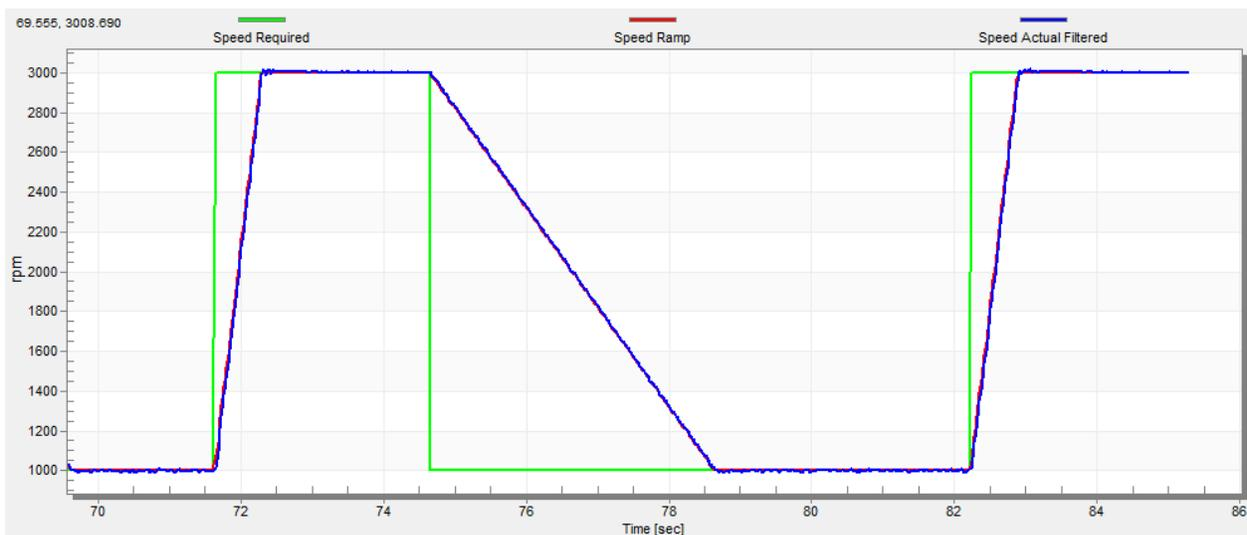

Figure 46. Speed profile
2. The increments are common for the scalar and speed control. The increment fields are in the “Speed & Pos” tab and accessible in both tuning modes. Clicking the “Update Target” button applies the changes to the MCU. An example speed profile is shown in Figure 46. The ramp increment down is set to 500 rpm/sec and the increment up is set to 3000 rpm/sec.